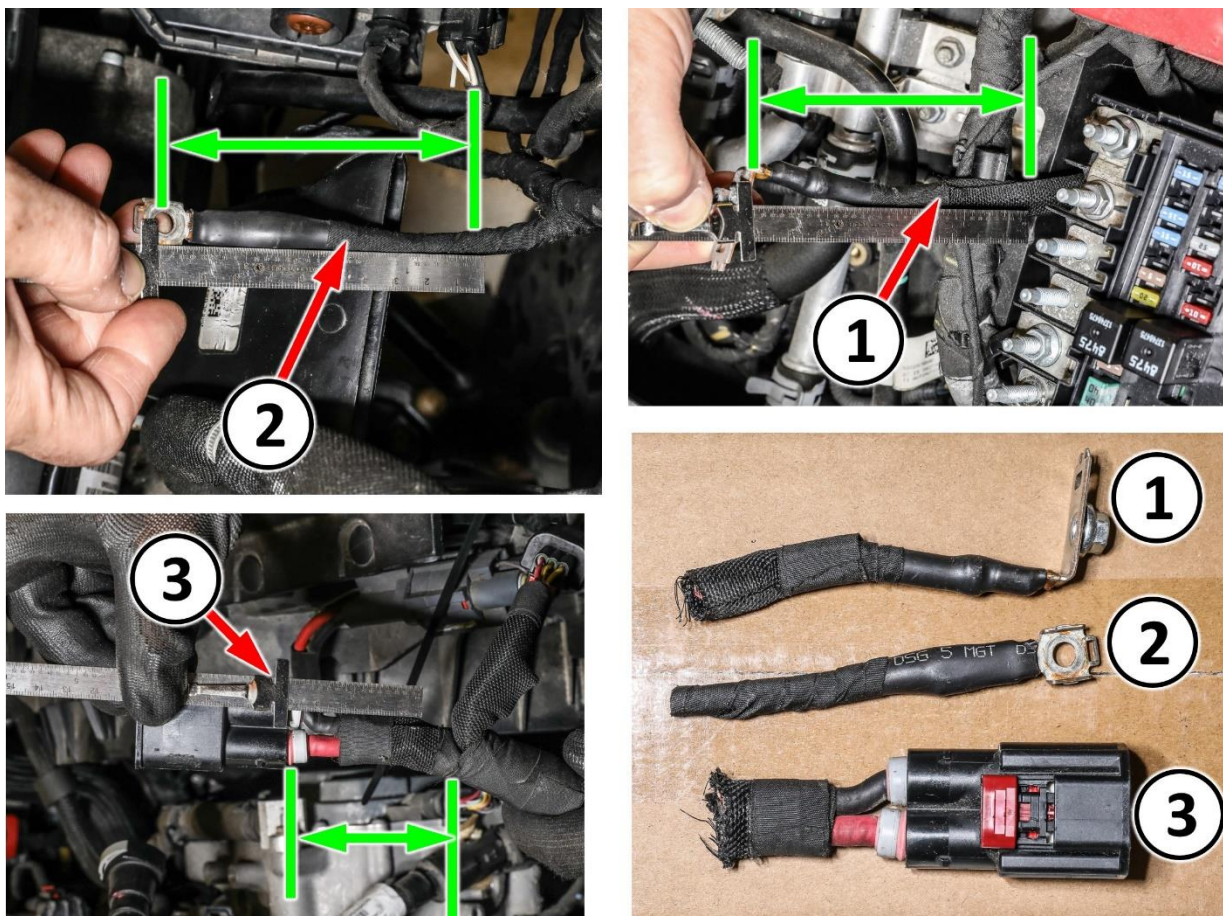

Figure C8 – Remove EHPS Wire Harness Terminals
28. After verification, cut EHPS power supply eyelet D6630J approximately 4 inches behind eyelet 90-degree bend and set aside for return for analysis (Figure C8).
29. After verification, cut ground eyelet G908A approximately 4 inches behind center of eyelet hole and set aside for return for analysis (Figure C8).
30. Cut 2way EHPS connector D2704A approximately 4 inches behind connector body taking special care not to cut through 3way connector D2704B circuits. Set aside for return for analysis (Figure C8).